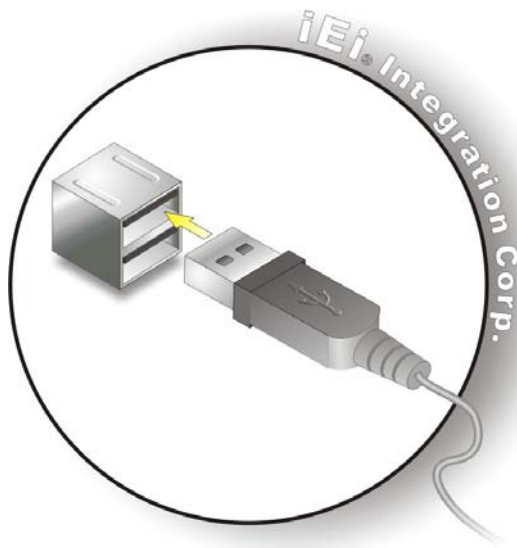

Figure 3-24: USB Device Connection
Step 2: Align the connectors. Align the USB device connector with one of the connectors. See **Figure 3-24**.